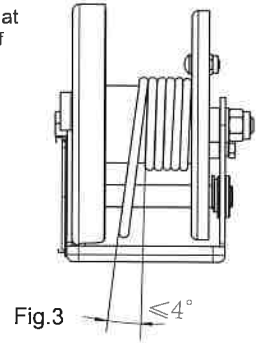

Fig.3
4. Fitting the winch with the fleet angle no more than 4° (Fig.3)